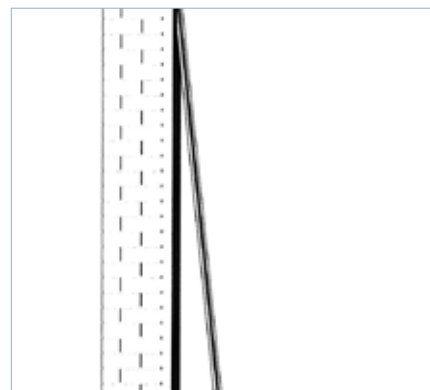

FIG 20
2. Insert end caps into prepped holes on the interlock (inside and out) and install the supplied screws. The small brush strip fits to the back of the cap before fixing (FIG 20)